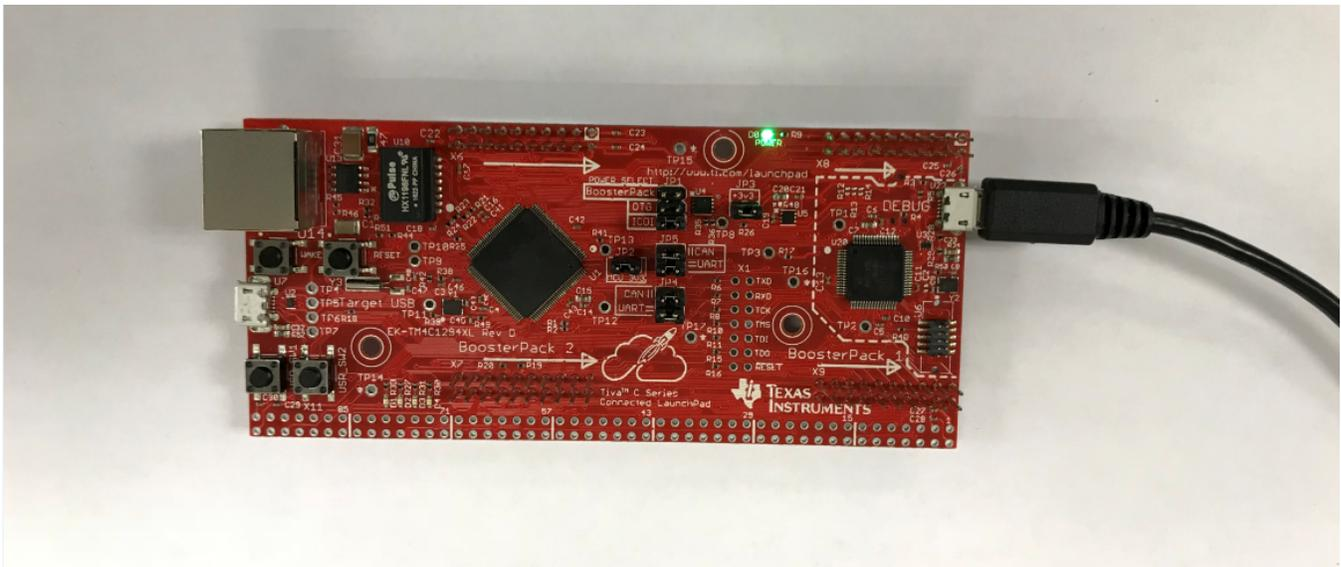

Figure 6. TM4C1294 LaunchPad™ Software Programming Setup
2. Make sure the power select JP1 jumper on the TM4C1294 LaunchPad™ is on ICDI. Connect the *Debug USB port* on the TM4C1294 LaunchPad™ to the PC with a micro USB cable as shown in Figure 6. This must light the green power LED D0 on the TM4C1294 LaunchPad™.